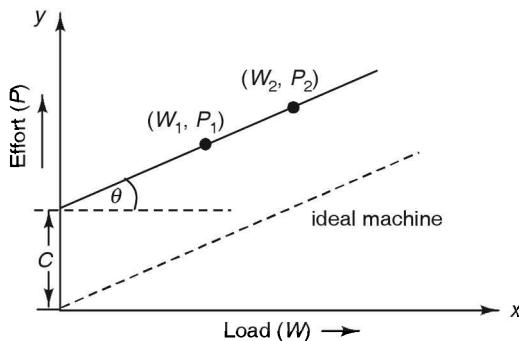

FIGURE 7.34 Law of machine.
The law of a machine is given by the relationship between the effort applied and the load lifted by the machine. If the readings of applied effort (P) and load (W) lifted are noted, a graph is obtained as shown in Figure 7.34. The effort for zero load for an ideal machine is zero. However, an actual machine requires some effort (C) even at zero load. If ' θ ' is the slope of the line, then $\tan \theta = m$ and the law machine can be written as